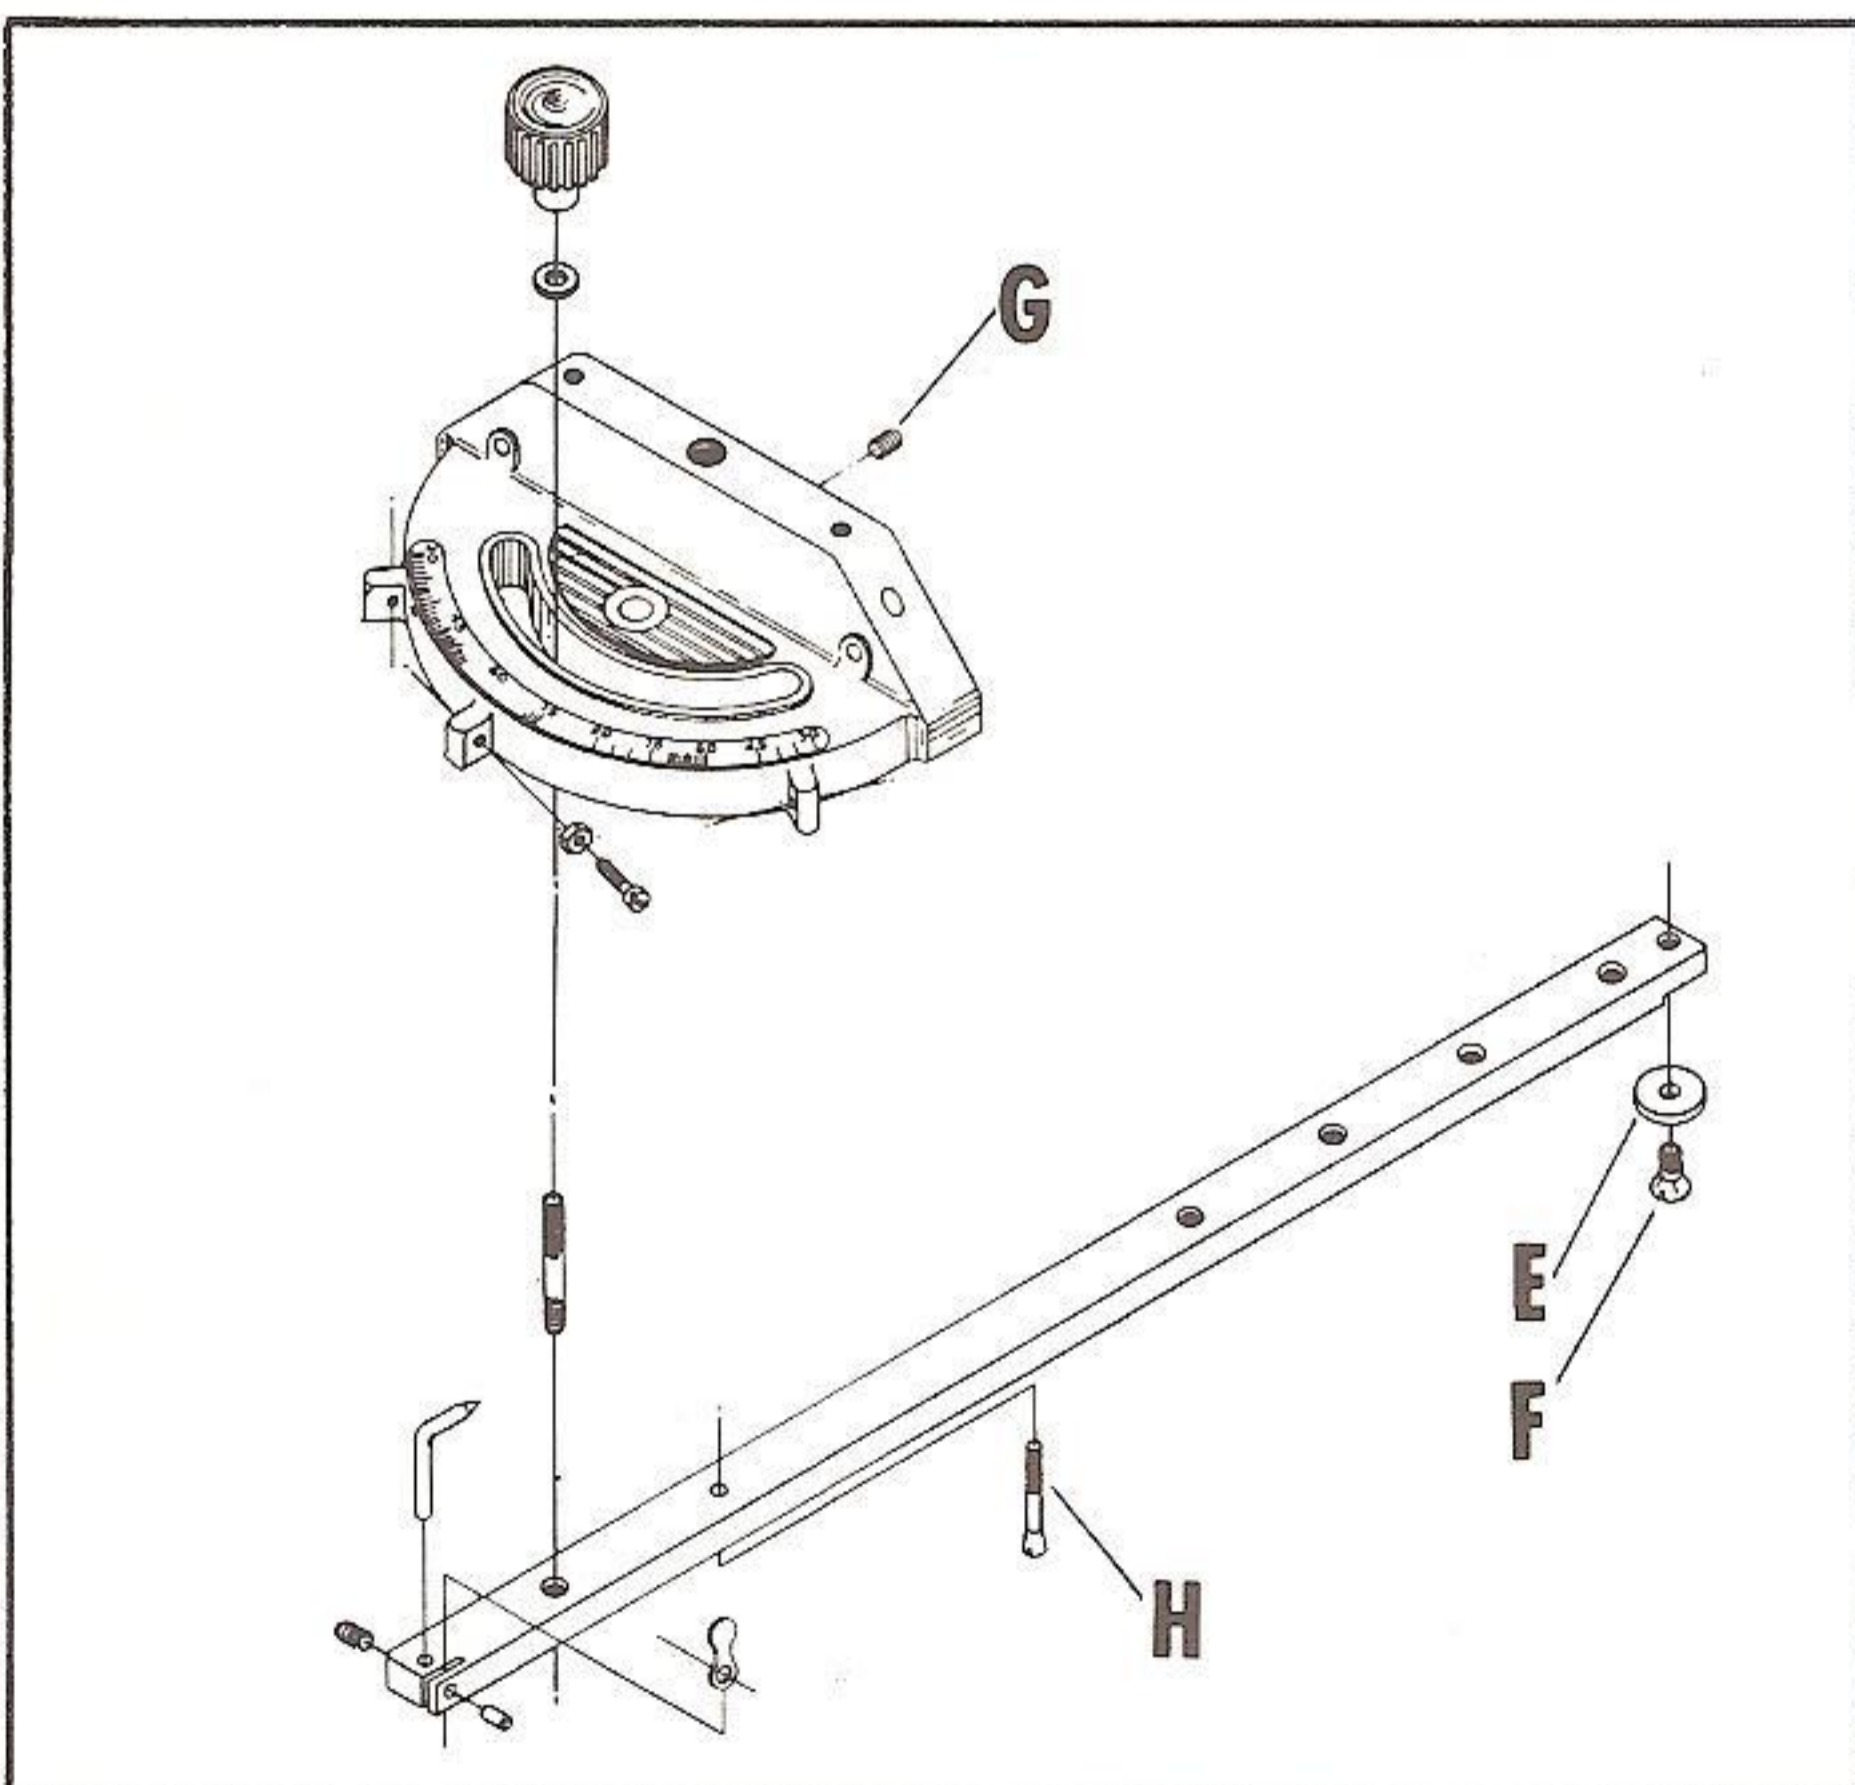

Fig. 27
Your Unisaw is equipped with T-slot miter gage slots and the special plate (E) and flat head screw (F) are to be assembled to the end of the miter gage bar, as shown in Fig. 27.
The head of the miter gage pivots on a special tapered screw that fastens the head of the miter gage to the bar. If the miter gage head does not pivot freely or after long usage pivots too freely, it can be adjusted by loosening set screw (G) Fig. 27, and turning the tapered screw (H) in or out. Be sure to tighten set screw (G) after adjustment is made.